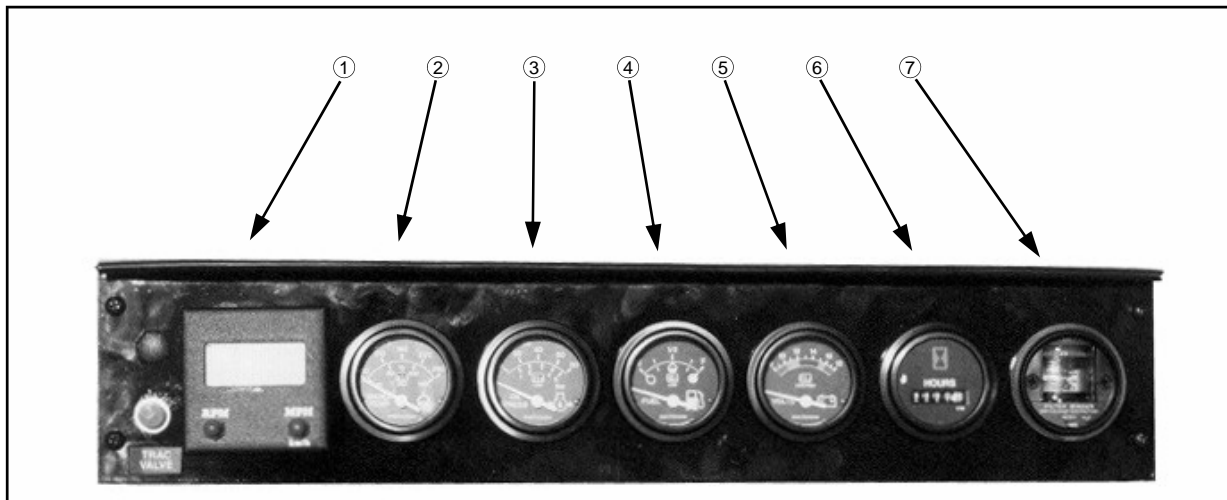

FIG 5.44
### Speedometer/Tachometer - (fig. 5.44, item 1)
### Water Temperature - (fig. 5.44, item 2)
### Engine Oil Pressure - (fig. 5.44, item 3)
### Fuel Gauge - (fig. 5.44, item 4)
### Volt Meter - (fig. 5.44, item 5)
### Hour Meter - (fig. 5.44, item 6)
### Filter Minder (diesel only) – (fig. 5.44, item 7)